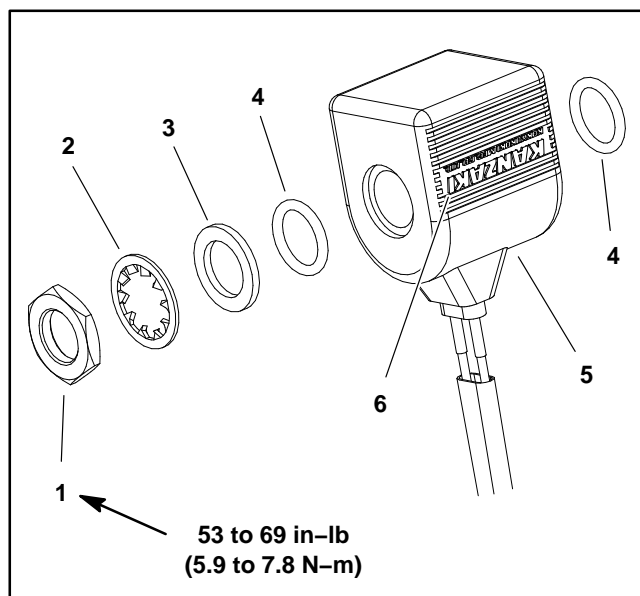

Figure 125
52. Place O-ring, solenoid coil, O-ring, washer, lock washer and nut onto solenoid valve stem. Coil should be installed so the "KANZAKI" molded into the coil has the "I" nearest the nut location (Fig. 125). Torque nut from **53 to 69 in-lb (5.9 to 7.8 N-m)**.